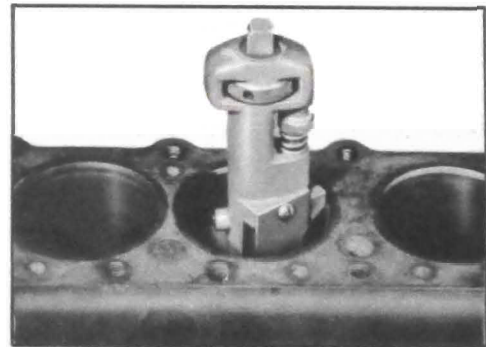

Figure 2-26—Removing Ridge from Cylinder Bore
2. Examine the cylinder bore above the ring travel. If bore is worn so that a shoulder or ridge exists at this point, remove the ridge with a ridge reamer to avoid damaging rings or cracking ring lands in piston during removal. Chamfering at 15 degrees angle will prevent ring damage when pistons are reinstalled. See figure 2-26.